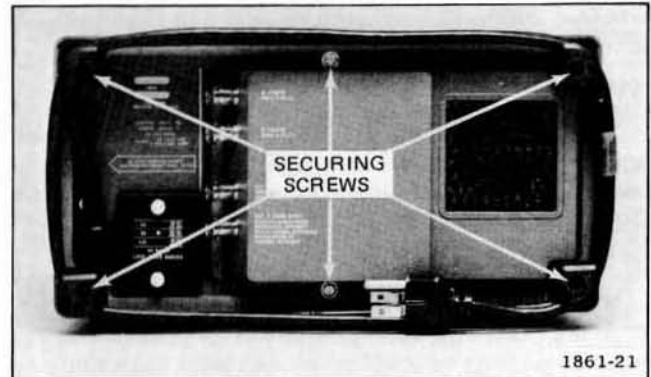

Figure 5-1. Removing the wrap-around cabinet.
4. Remove the six screws indicated in Figure 5-1 and remove the rear cabinet frame (with feet and screws) from the instrument as an intact assembly.